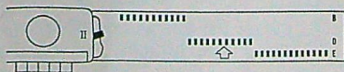

Fig. 61
- 5) Manually move back the needles from position "E", to "D" which you want to increase. (See Fig. 61)